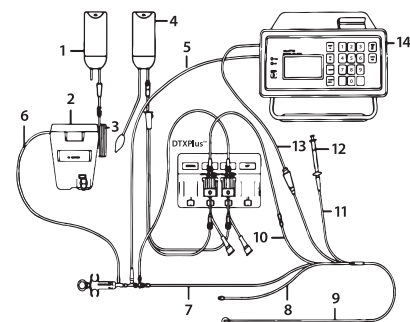

Figure 1. Closed Loop System Setup
ADDITIONAL ITEMS FOR SETUP (SEE FIG. 1)
12. Connect injectate sensor housing and Critikit™ assembly to the prefilled CVP lumen on the PA catheter (see Figure 1). Secure injectate system to ensure minimum movement of connections.
19. Connect the in-line sensor cable (Model SP4045 or other compatible cable) to injectate sensor housing by pushing spring assembly into housing and tightening (see Figure 1).
PIÈCES D'ASSEMBLAGE SUPPLÉMENTAIRES (VOIR FIGURE 1)
- Relier le boîtier du capteur d'injection et le set Critikit™ à la lumière PVC préremplie sur le cathéter AP (voir Figure 1). Sécuriser le système d'injection afin de s'assurer que les raccords bougent le moins possible.